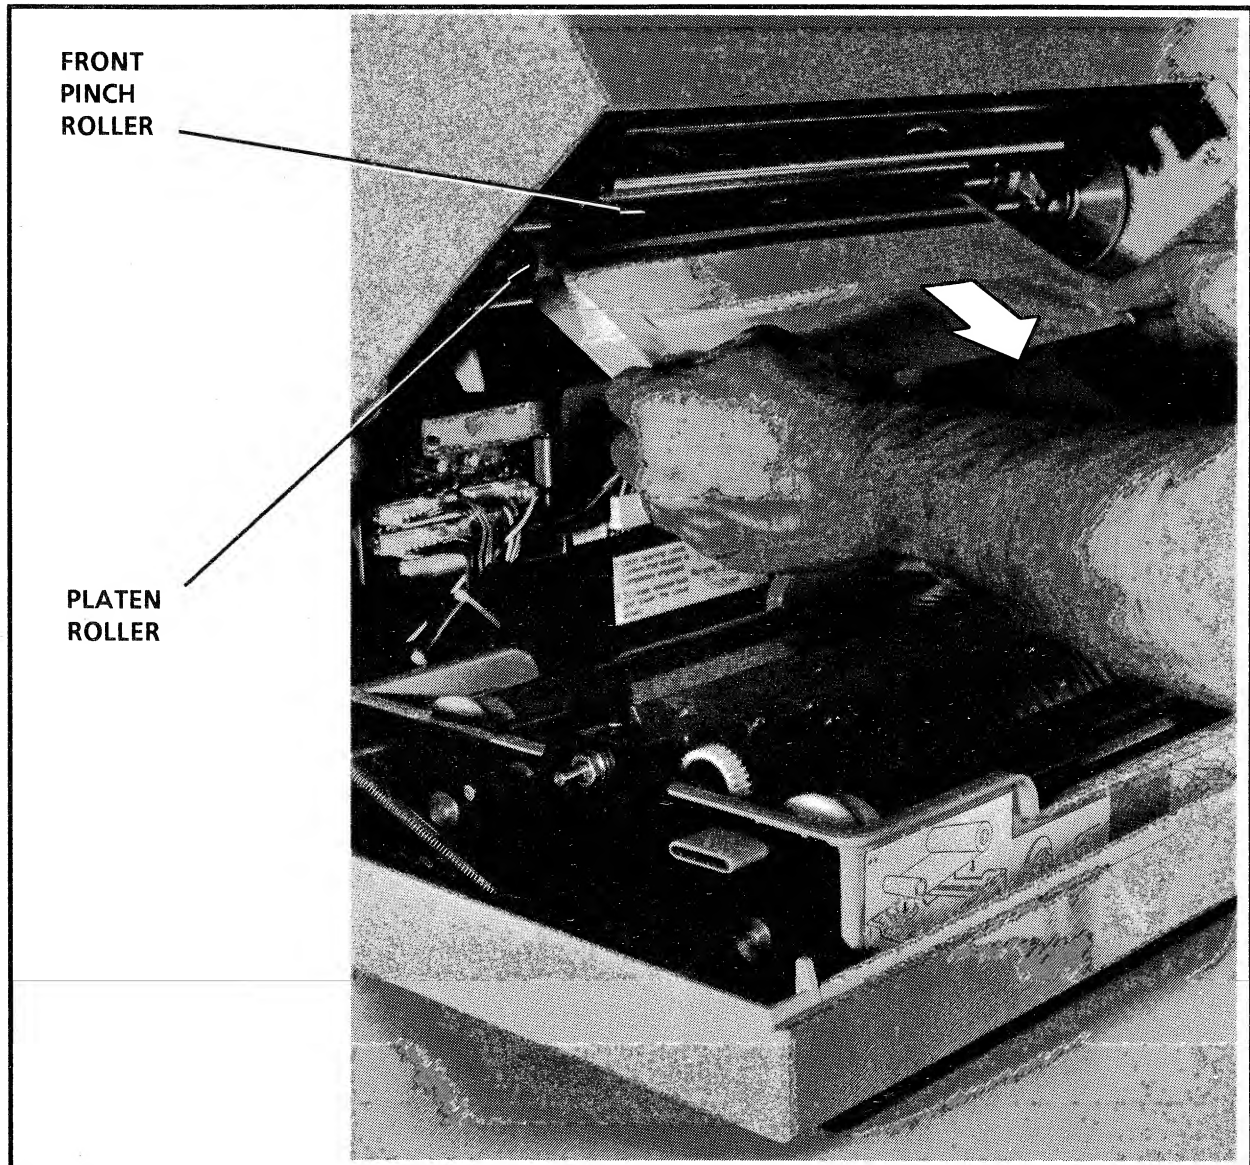

Figure 6-10. Removing Jammed Paper
4. Remove the jammed color panel by pulling it slowly toward you, away from the platen roller, as shown in Figure 6-10.
4. Remove the jammed paper by pulling it slowly toward you, away from the platen roller. See Figure 6-10.